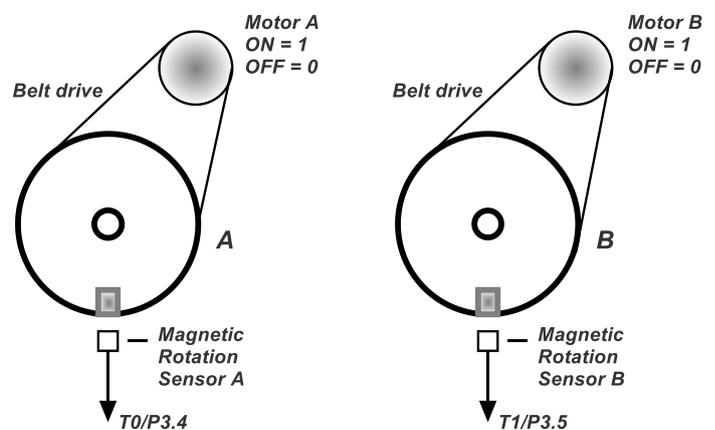
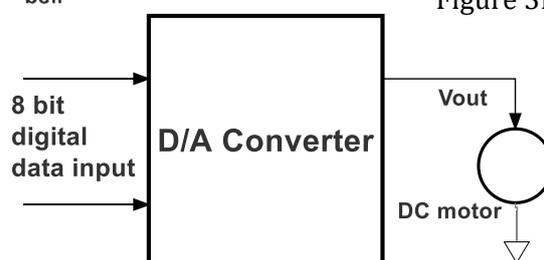

Figure 3B
Figure 4B
- 3A. Describe and differentiate between the operation of 8051 timers in timer mode and counter mode. Determine the value to be loaded to TMOD register to configure timer '0' in mode '0', with internal clock, external start/stop control and timer '1' in counter mode in mode '2' with internal start/stop control. List the various uses (applications) of timer mode of operation and counter mode of operation. (03)
- 3B. As part of an industrial automation system two wheels are driven by two separate motors, motor A and motor B. The rotation sensors give a logic low level as the wheel magnet passes the sensor. Each motor can be turned on or off by providing a logic signal as indicated in **Figure 3B**. An 8051 is to be used to control these motors, where a motor can be turned ON and allowed to run for N rotations and then turned OFF. The sensor signals will cause timer/counter interrupts. Write an 8051-assembly language program which will turn on the two motors at the same time. Motor A will do 20 rotations and will then be stopped. Motor B will do 200 rotations and will then be stopped. (05)
- 3C. Show the interfacing circuit to interface 16X2 LCD to 8051. Explain the steps to check the status of busy flag in LCD operation. (02)
- 4A. Show the interfacing circuit to interface 4X3 matrix keyboard containing 12-keys (1 to 9, \*, 0, #) to 8051. Write an 8051 ALP to identify the key pressed and display the code of the key pressed in port 0. Use P1(rows) and P2(columns) pins for interfacing. Use software debouncing technique. (05)
- 4B. The **Figure 4B** shows a D/A (digital to analog) converter which drives a dc motor. Assume the power stage is included in the D/A converter so that the motor can be driven directly by Vout. An 8051 microcontroller has this D/A converter connected to an I/O port P1. The 8051 is connected to a Computer via the serial port. When 8-bit data character is received from the Computer, it interrupts the 8051 through the 8051's serial port interrupt and the received 8-bit data value is passed to the D/A converter so that the Computer is effectively controlling the motor speed. Write an 8051-assembly language program to implement this system. Assume a serial data baud rate of 9,600 baud. (05)
- 5A. Explain the Register Organization of ARM7-TDMI processor. (04)
- 5B. Explain the following Instruction of ARM7-TDMI processor. (03)
- 5C. Write an ARM-ALP to multiply a 32-bit number stored in 2020H with another 32-bit number stored in the next aligned memory location. Store the 64-bit result in next successive aligned memory locations. (03)